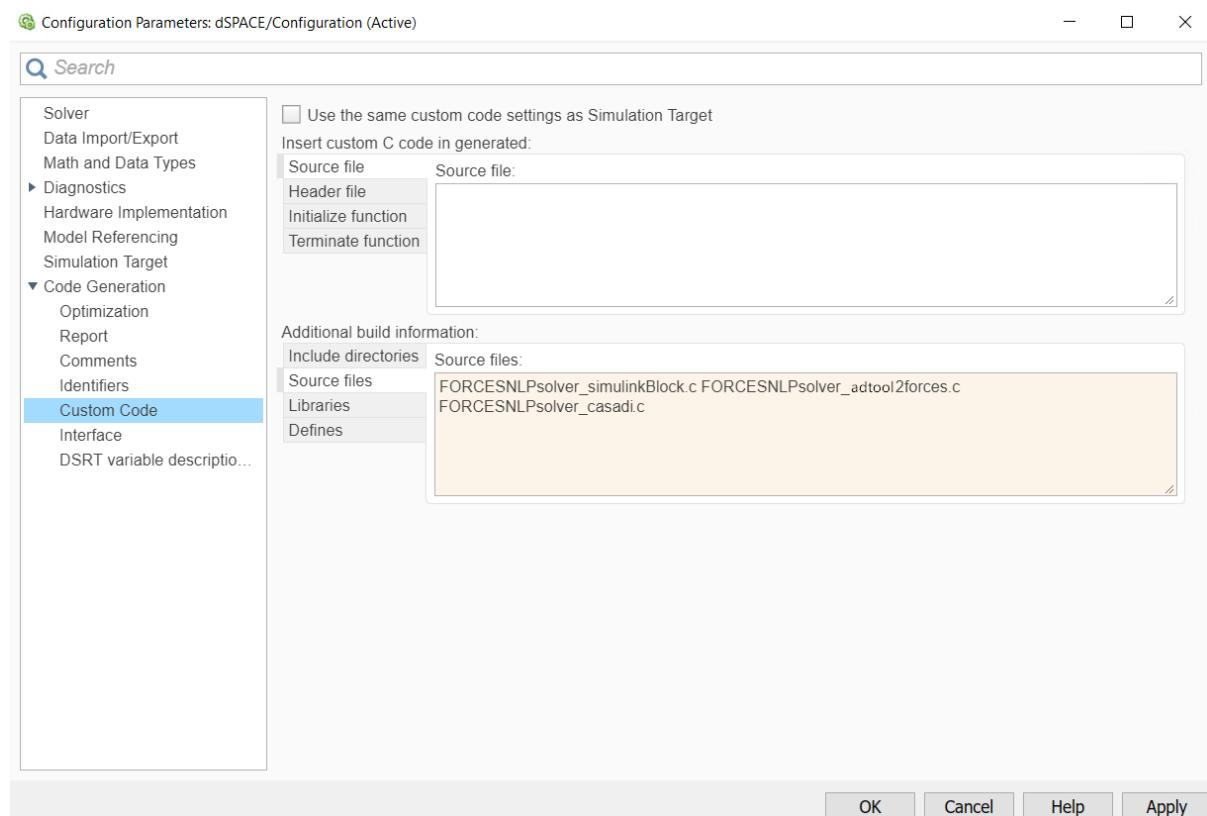

Figure 13.40: Add the source files used for the code generation.
- 11) In the “Code Generation/Custom Code” tab, add the source files (see Figure 13.40):